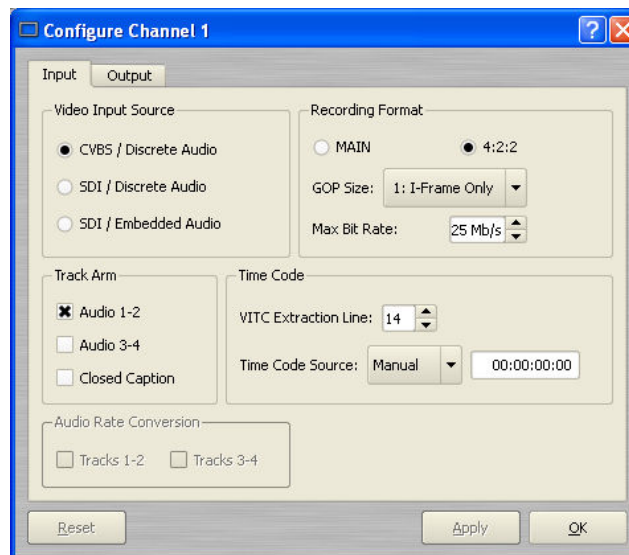

Figure 6 - Channel Configure Dialog
- A. From the main menu bar select **EDIT->CONFIGURE**. The screen of Figure 6 appears. Select the **TIMING** option.
Select **OPTIONS->CONFIGURE** from the Channel 1 Transport Window. The Dialog of Figure 6 appears. Select the appropriate Video Input source by clicking the related radio button in the **Video Input Source** section of the dialog. Click **APPLY** or **OK**.
This function selects the time code source for newly recorded clips. A time code value is obtained from the selected input source at the start of a new recording. Refer to Figure 6. Choose **VITC**, **LTC** or **Manual** input source. For **MANUAL**, enter the desired time value for the first frame of the recording in the **Starting Time Code** entry field.